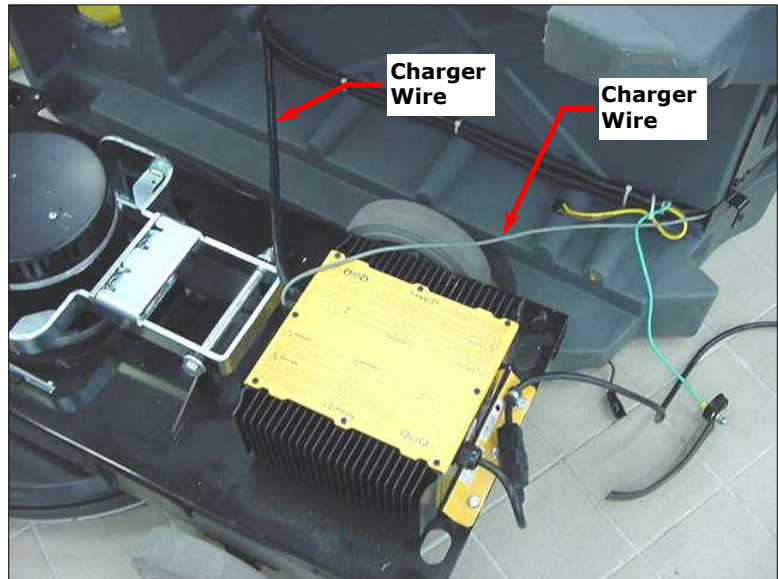

Figure 16 – Removing Housing/Charger Wires
- 11.** See Figure 16. Remove the housing and lay it on its side.